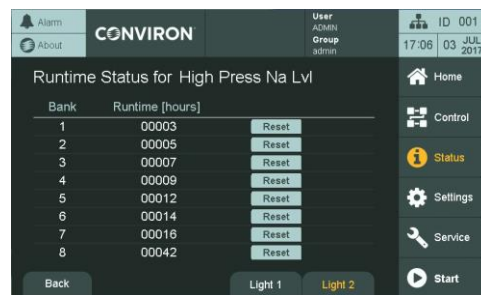

Figure 7-8 Lights Runtime Screen, Second Tab Selected
2. If there are two tabs on the **Lights Runtime** screen (Figure 7-8), then verify that you are on the correct tab, which is highlighted in yellow text.